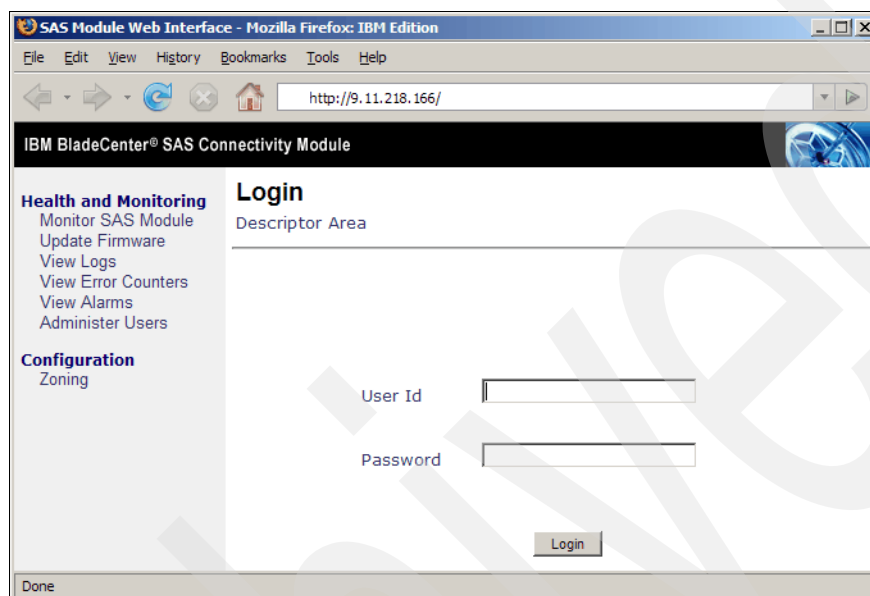

Figure 18-7 SAS Connectivity Module - Login
1. Log on to the SAS Connectivity Module using the Web interface with the IP address defined for the connectivity module in the BladeCenter Advance Management Module (AMM), as shown in Figure 18-7. Use USERID as the user Id and PASSWORD as the password. You can change the password under the Administer Users menu option once you are logged on.